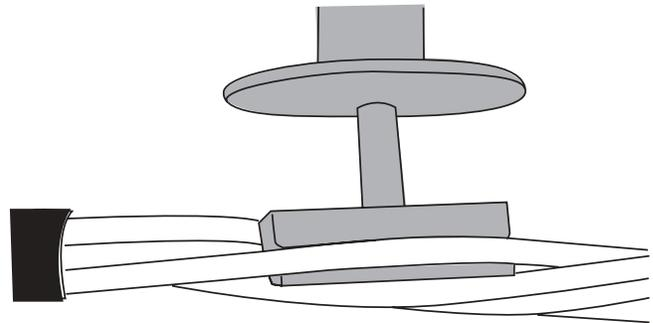

Figure 6
- Step 2** Beginning at one of the tape marks, place the buffer tube in the channel of the NOFAT. Press down on the tube to make sure it is properly seated in the channel (Figure 6).